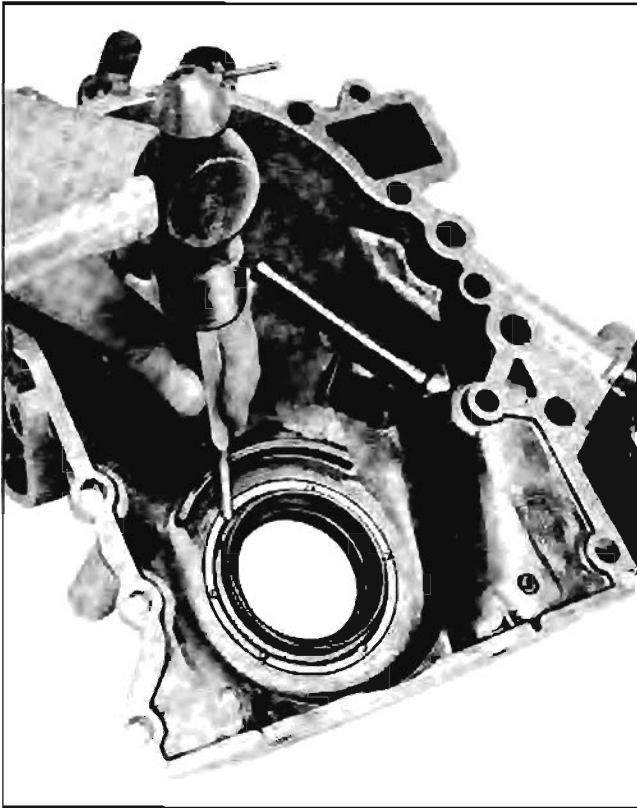

Fig. 6-99 Staking Shedder
c. Stake shedder in three places (Fig. 6-99).